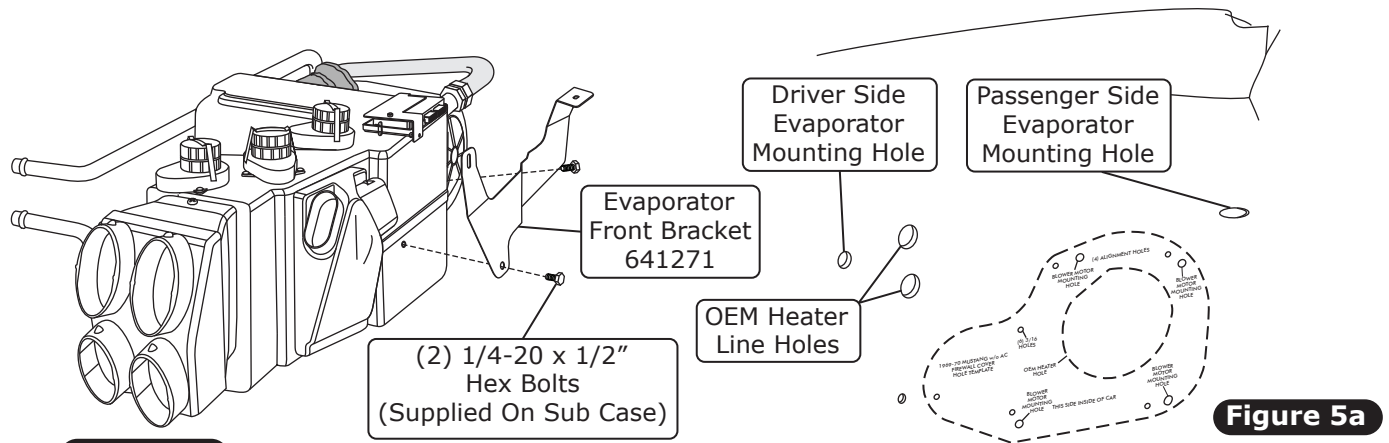

Figure 5
4. Install the front mounting bracket onto the evaporator using (2) 1/4-20 x 1/2" hex bolts (supplied on the sub case) and tighten as shown in Figure 5, below.